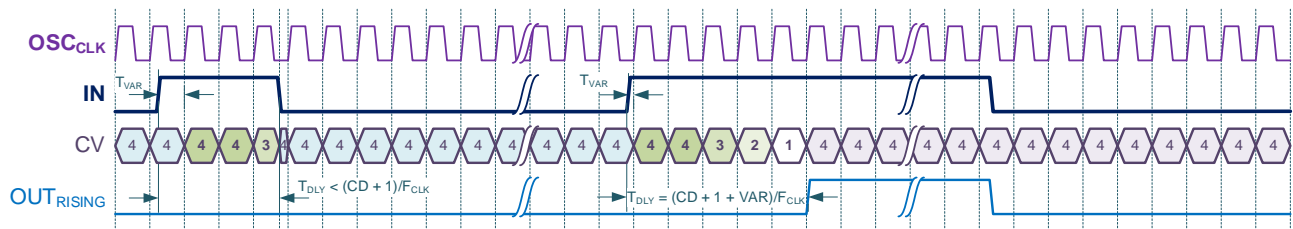
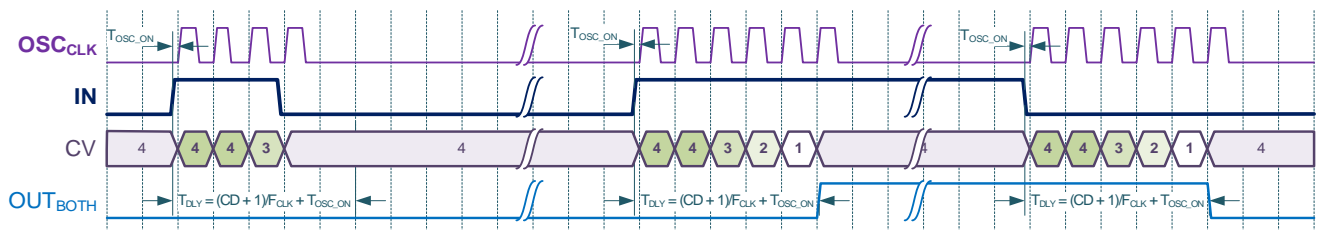

Figure 9.2. Delay Mode Timing Diagram (Rising Edge Detect, Forced OSC)
Figure 9.7. Delay Mode Timing Diagram (Both Edge Detect, Auto OSC)
In Delay mode, the TMR delays the input signal by the selected edge event (rising edge, falling edge, both edges) for a time determined by the Control Data, input clock signal, and selected divider value. If input signal is shorter than the delay value, the signal does not propagate to the output. The timing diagrams of this mode are shown in Figure 9.2...Figure 9.7.
- Delay (Figure 9.2...Figure 9.7)